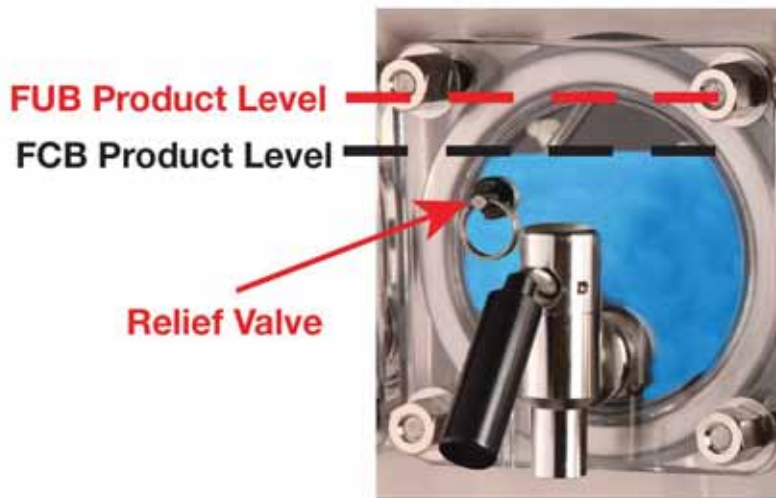

Figure 6.
2.	Fill the barrel by pulling to open the barrel faceplate relief valve for the barrel (See Figure 6). The product will then begin to fill inside the barrel. Continue filling the barrel to the level shown in Figure 6 (approx. half way between the relief valve and the top of the barrel, depending on the product type) for 100-110% overrun.